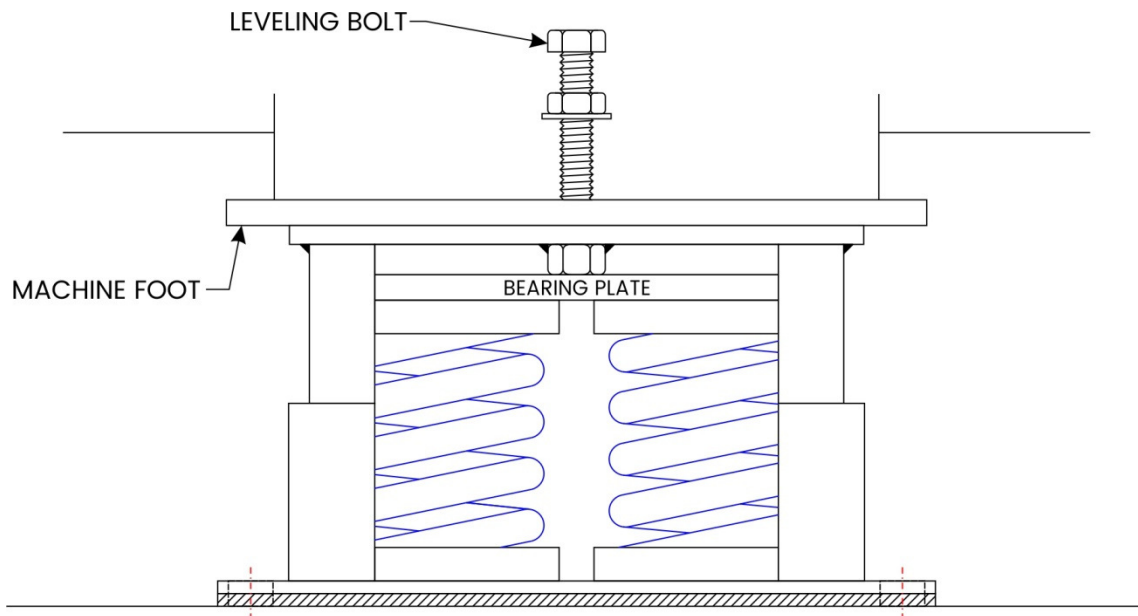

Figure 2
6. The Isolator Leveling Bolt should be inserted through the foot and into the isolator. Thread the bolt into the isolator by hand until it touches the top of the bearing plate. (See Figure 2).